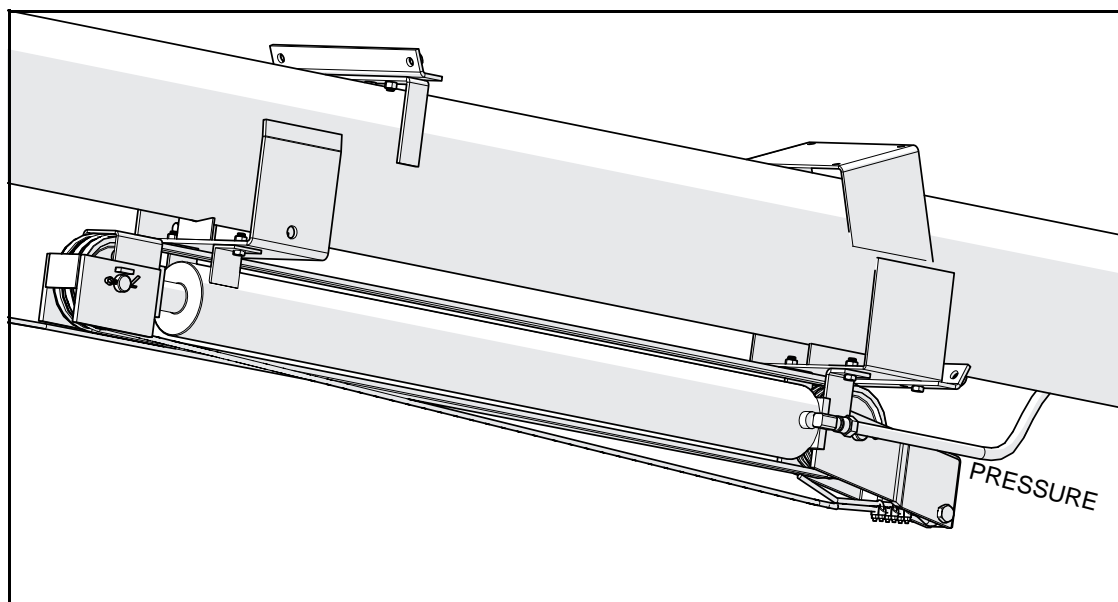

Figure 3.31 MKX100-53, MKX100-73 Hydraulic Hose Cylinder Connection
- **MKX100-53:** Run the pressure hose under the tube and to the boot, securing the hose at brackets welded to side of auger tube and boot. Bend tops of these brackets over slightly to hold hose in place (see Figure 3.31).
- **MKX100-73:** Run the pressure hose under the tube and to the boot, securing the hose at brackets welded to side of auger tube and boot. Bend tops of these brackets over slightly to hold hose in place (see Figure 3.31).